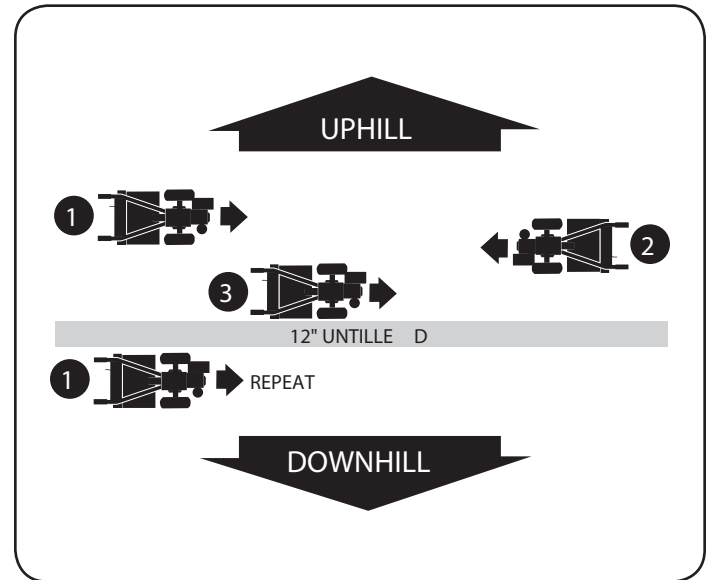

Figure 21
- To create a terrace, start at the top of the slope and work down. Go back and forth across the first row. See Figure 21.